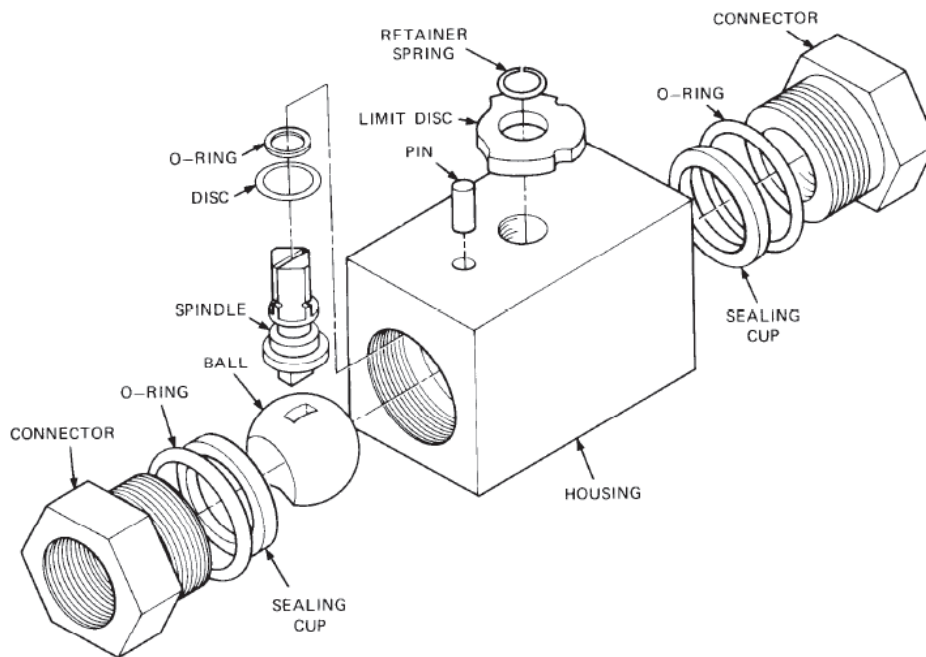

Figure 15 Flow Control Valve – Exploded View
43. An adjustable ball type flow control valve is installed between the interface assembly and the hydraulic motor. This valve controls the flow of pressurized hydraulic fluid to the motor, which provides an effective motor speed control (Figure 15).